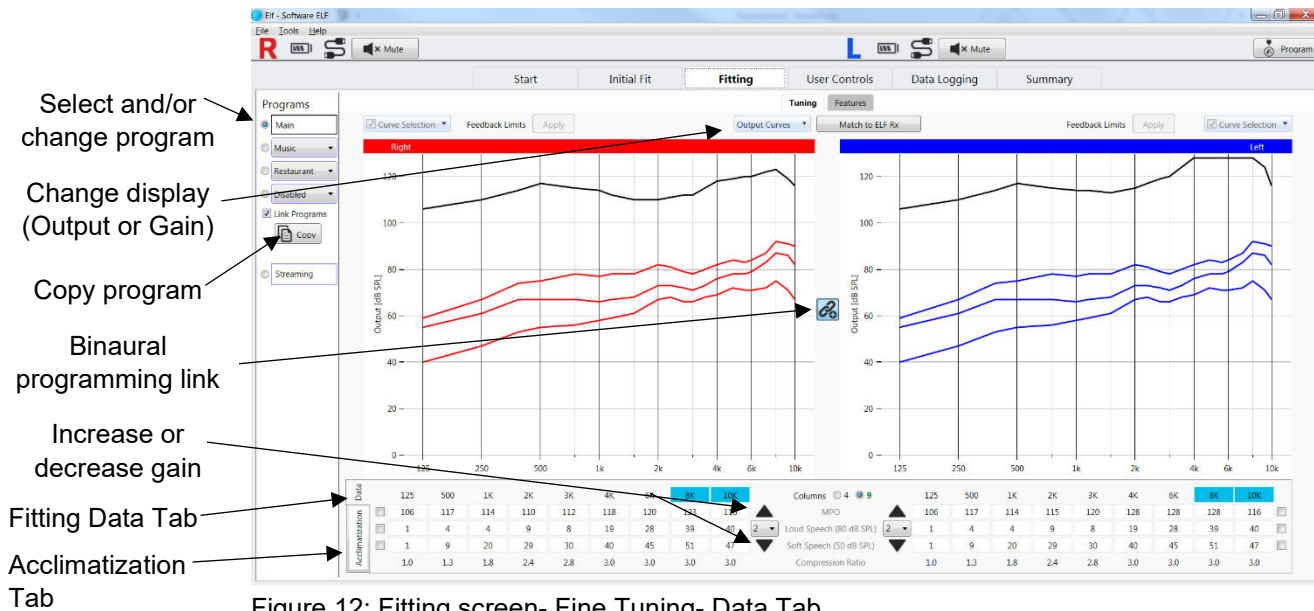
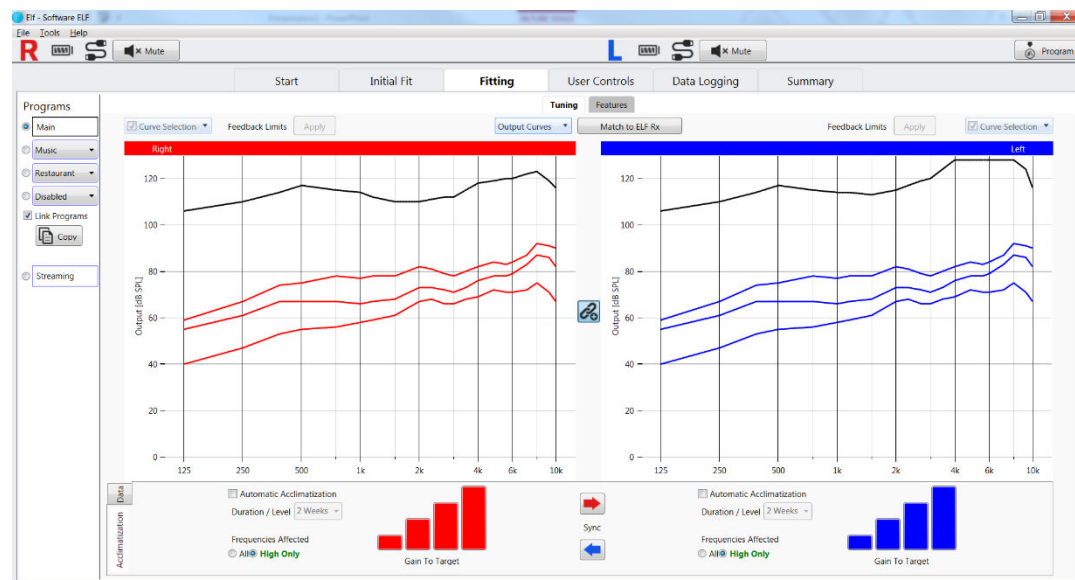
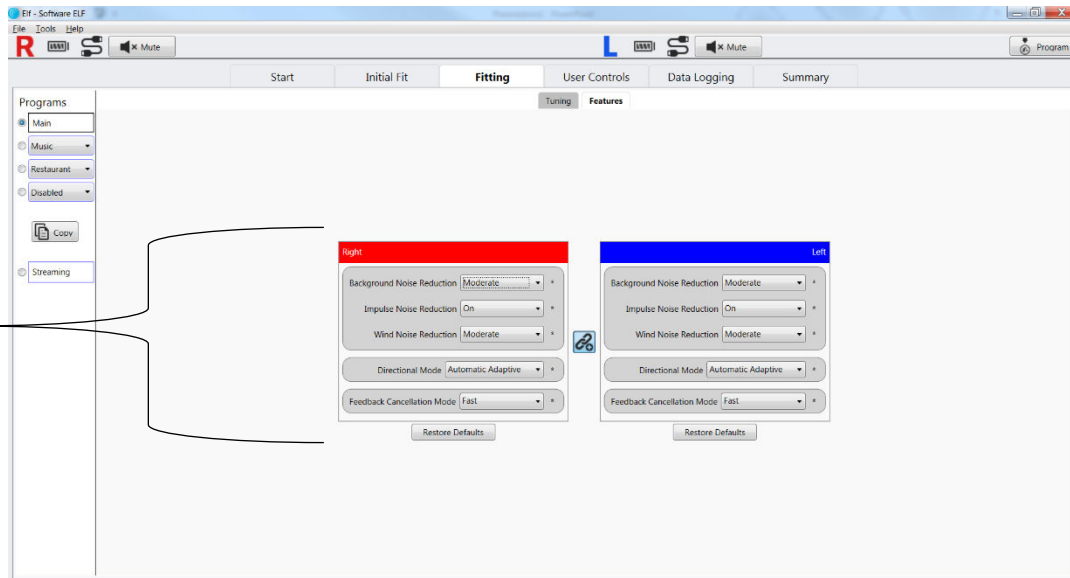

Figure 12: Fitting screen- Fine Tuning- Data Tab
Figure 13: Fitting screen- Fine Tuning- Acclimatization tab
Figure 14: Fitting screen- Features
- **Fitting:** Fine-tune the frequency response of the Processor (Figure 12), access automatic or manual acclimatization (Figure 13) and modify feature settings (Figure 14).